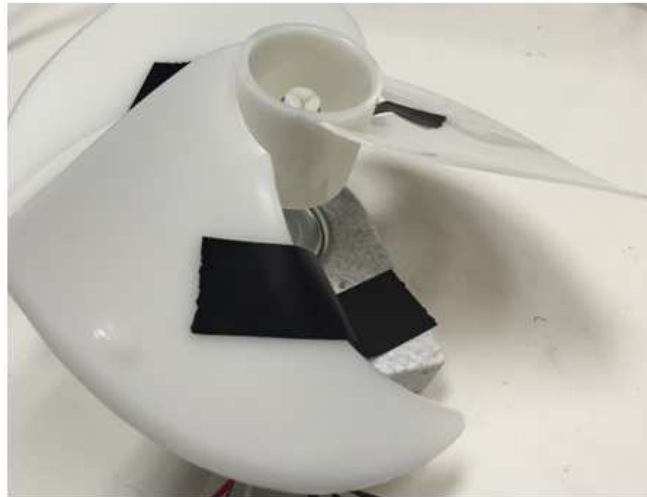

Figure 25. Align and Lock Shaft of Motor
1. Align motor by connecting external power supply to phase U (+ve terminal) and phase V (ground). Once the motor is aligned, lock it using tape (see Figure 25). Connect U-V-W phase of motor to U-V-W of EVM